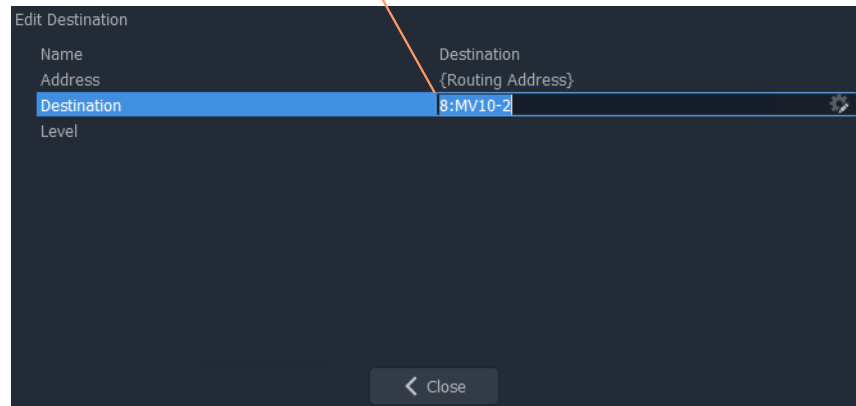

Fig. 12-56: Setting Destination for a Label's Destination Behaviour
- 6 Double-click on the **Destination** Behaviour and set its 'Destination' property to the same destination that each of the **Buttons** control. See Figure 12-56.